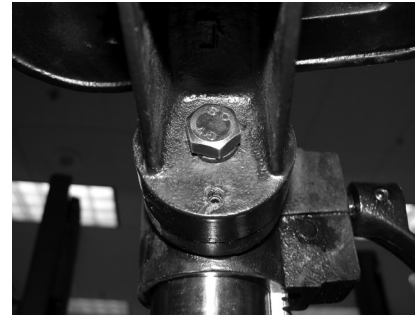

Figure 11
- On underside of table support bracket, back out set screw with supplied hex wrench. Loosen large hex head bolt. **See Fig. 11**